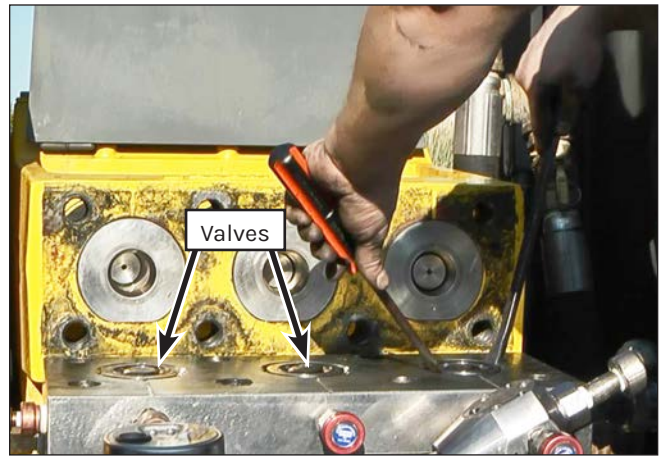

Figure 103: Valve Removal.
7. Use two small pry bars (Jetstream p/n 70179) to pry the valve out of the manifold as shown in (Figure 103).